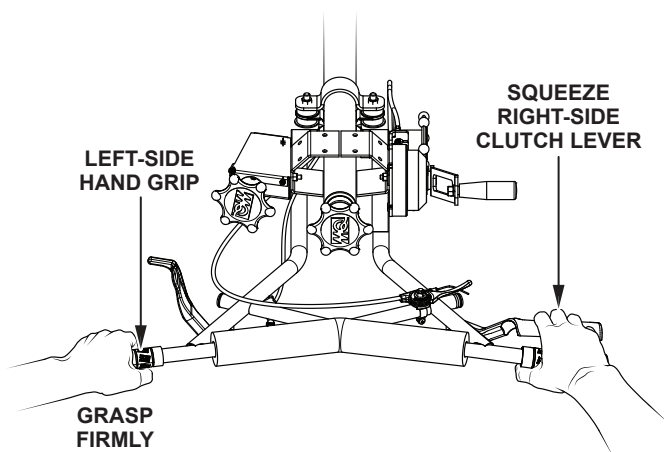

Figure 48. Engaging The Clutch
3. Firmly grasp the **left-side** handgrip, then **squeeze and hold the right-side** clutch lever (Figure 48) to engage the clutch.